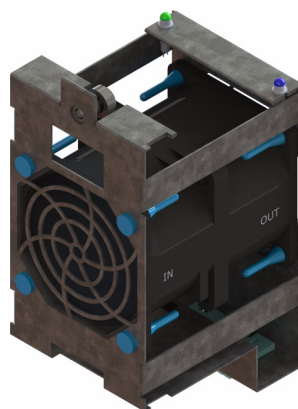

Figure 1-15 Fan Assembly Module (each contains two impellers)
- Six fan assemblies (Figure 1-15);